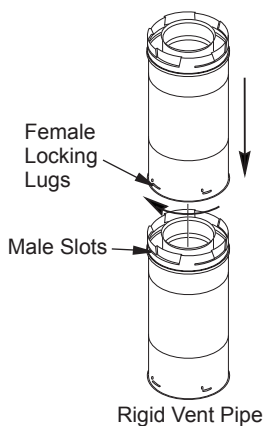

Figure 17 - Vent Pipe Connections
Twist-lock Procedure: Female ends of pipes and fittings have four locking lugs (indentations). These lugs will slide straight into matching slots on male ends of adjacent pipes and fittings. Push pipe sections together and twist one section clockwise approximately one-quarter turn until sections are fully locked. See Figure 17, page 15. *Note: Horizontal runs of vent must be supported every three feet. Use wall straps for this purpose.*
2. Assemble desired lengths of pipe and elbows necessary to reach from fireplace flue up through firestop. Be sure all pipe and elbow connections are fully twist-locked (see Figure 17, page 14).